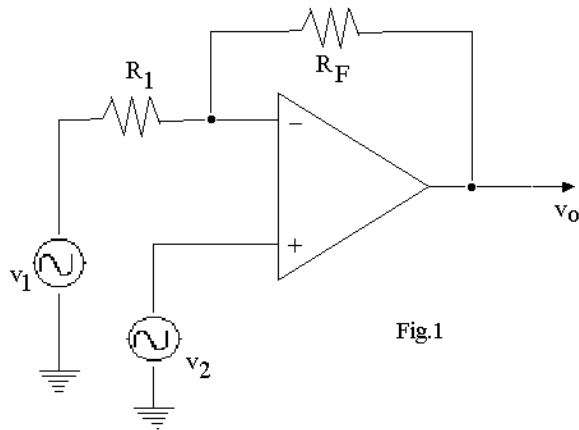

Fig.1
- Q.82** For the circuit shown in Fig.1, the output voltage is given by
- (A) $v_o = \frac{R_F}{R_1}(v_2 - v_1)$.
- (B) $v_o = \frac{R_F}{R_1}(v_2 - v_1) - v_2$.
- (C) $v_o = \frac{R_F}{R_1}(v_2 - v_1) + v_2$.
- (D) $v_o = \frac{(v_2 - v_1)}{(R_1 + R_F)}$.